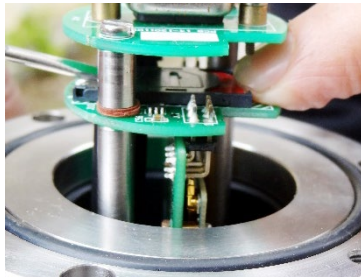

Figure 8-20: SIM slot locking
- To install SIM, unlock the slot by pushing the upper edge of SIM slot as per figure 8-20.